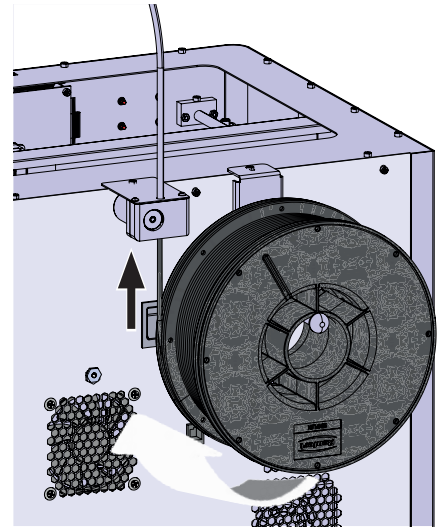

Fig. 20
**Ensure that the filament spool is placed on the filament spool holder in such a way that the filament can be inserted clockwise into the FMS from underneath (Fig. 20).**